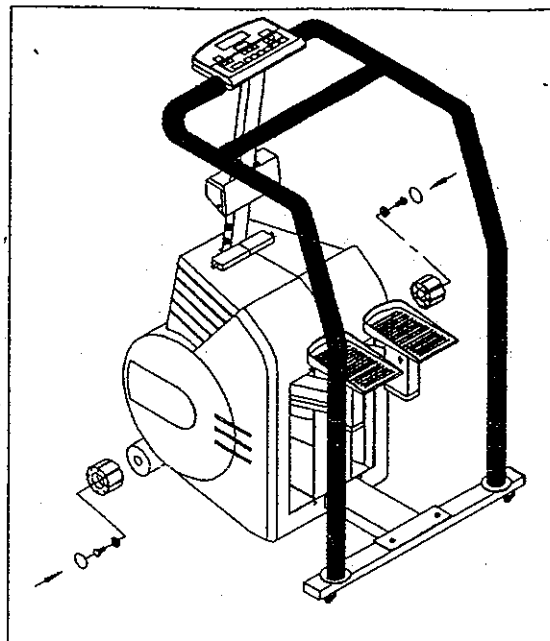

Fig. 16
6. Replace the transport wheels, tighten with screw and washer, then cover with labels (see Fig. 16).